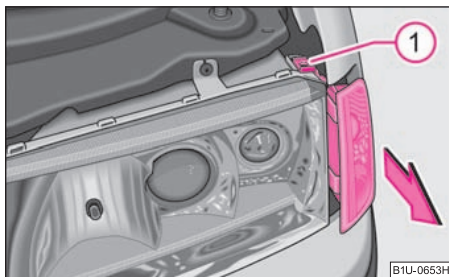

Fig. 184 Removing the light bulb for the turn signal light
- Unscrew the screw ①.
- Push the lamp out in direction of arrow ⇒ fig. 184.
- Screw in the screw ①. ■